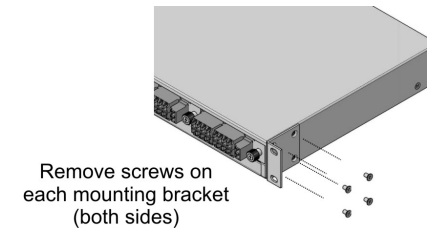

Figure 2: Removal of Standard Mounting Brackets
On an existing 5-Module chassis with standard mounting brackets, remove and replace the standard mounting brackets with the extended L-shaped mounting brackets. Remove the four (4) screws securing the standard mounting bracket to the chassis as illustrated in Figure 2.